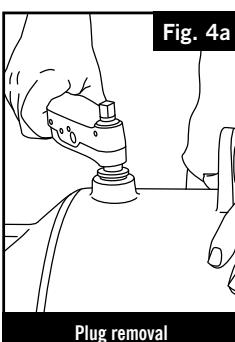

Fig. 4a
3) Each of the two clamp shells contain a  $\frac{1}{2}$ " BSP tapped outlet for attaching of bleeding equipment if required, remove the plugs and attach the equipment if necessary. (FIG 4a/4b)